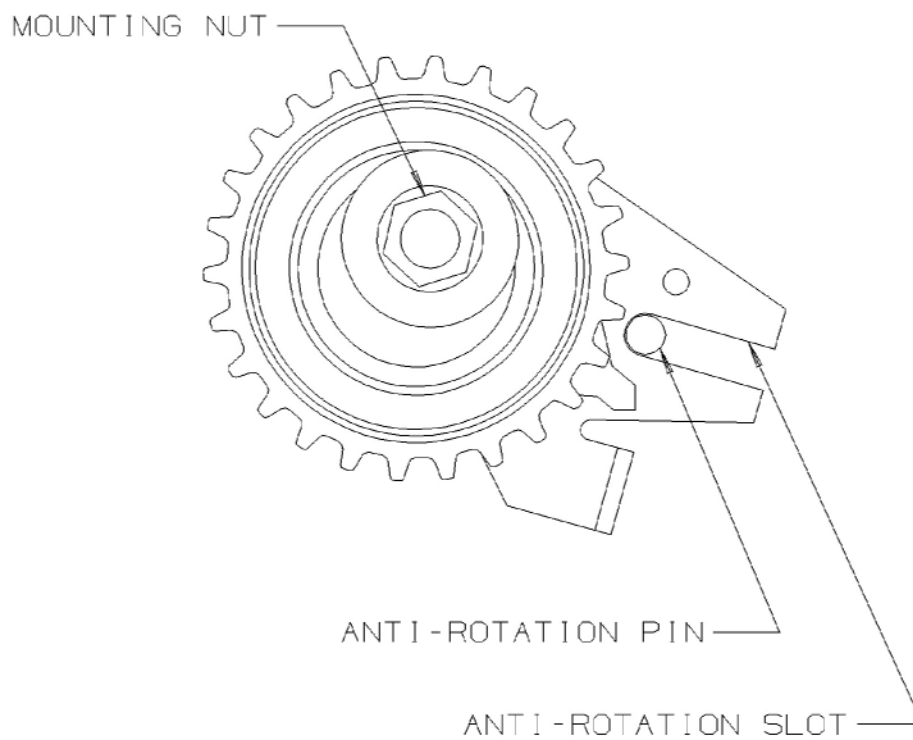

Figure 1: Tensioner Shown at Free-Arm Position Placed on the Mounting Bracket.
4. Place a new tensioner onto the mounting bracket. Tensioner's Anti-Rotation Slot should fit over the Anti-Rotation Pin on the bracket (See Figure 1).
5. Slide the tensioner to the farthest right for easier routing of the timing belt and hand tighten the M8 Mounting Nut (See Figure 1).